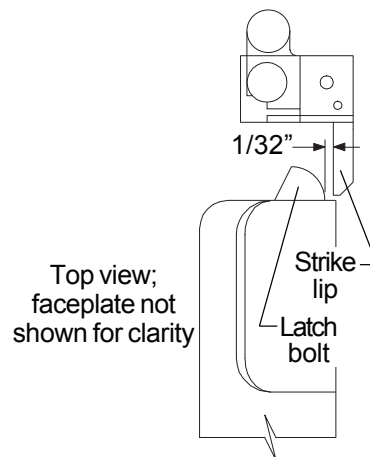

Figure 2
- 5 Install strike with two #12-24 screws. Make sure clearance between latch bolt and strike lip is 1/32" (Figure 2).